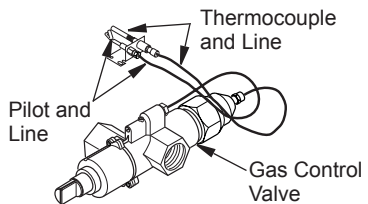

Figure 9 - Gas Control Valve with Thermocouple and Pilot
2. Attach pilot gas line to pilot outlet of gas control valve and tighten. Connect thermocouple to rear of gas control valve. See Figure 9. Do not overtighten. If using propane/LP gas, see *Changing Pilot Orifice*, page 12.